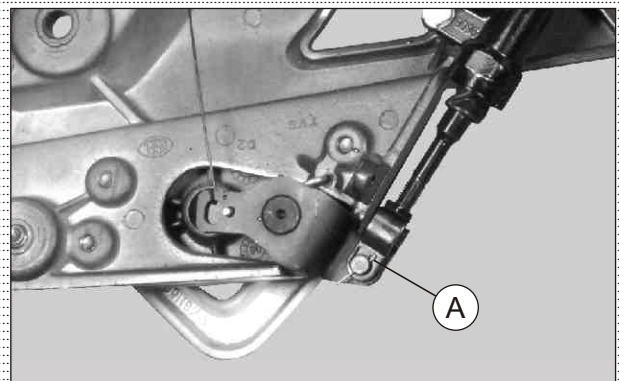

Fig. 6.113
- Remove split pin (A) and take out cotter pin. (Fig. 6.113)